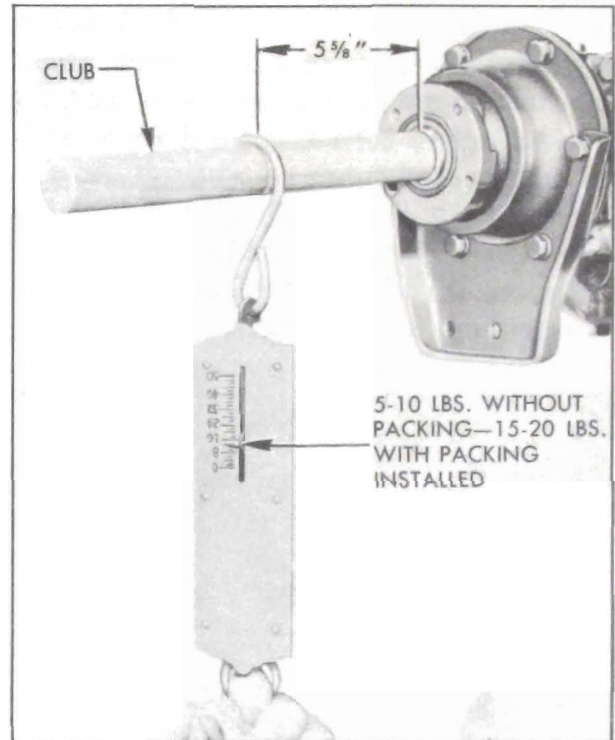

Figure 4-40—Checking Torque Ball Drag
The guide pins shown in figure 4-40 will aid in assembling torque ball and retainers. They may be made from 3/8"-16 bolts with heads cut off to give 1/2" of thread and 1" of shank, with screwdriver slots cut in end of shank.
13. Attach spring scale to club at groove located $5\frac{5}{8}$ " from end of universal joint and test pull required to move torque ball when all bolts are tight. See figure 4-40. A drag of 5 to 10 pounds should be obtained. If torque ball is too tight or too loose, loosen bolts and repeat the centering and tightening operation, then re-check drag with club and spring scale.
Final adjustment must provide a drag of 5 to 10 pounds on club with a $5\frac{5}{8}$ " leverage. See figure 4-40.
4. When torque ball is centered and bolts are tight, check torque ball drag with hardwood club and spring scale. See figure 4-40. The drag should be appreciably heavier than drag obtained during adjustment with packing removed; however, the drag must not be too great or cause a severe bind on torque ball. The torque ball should move smoothly and the drag should be 15 to 20 pounds on club with a $5\frac{5}{8}$ " leverage.